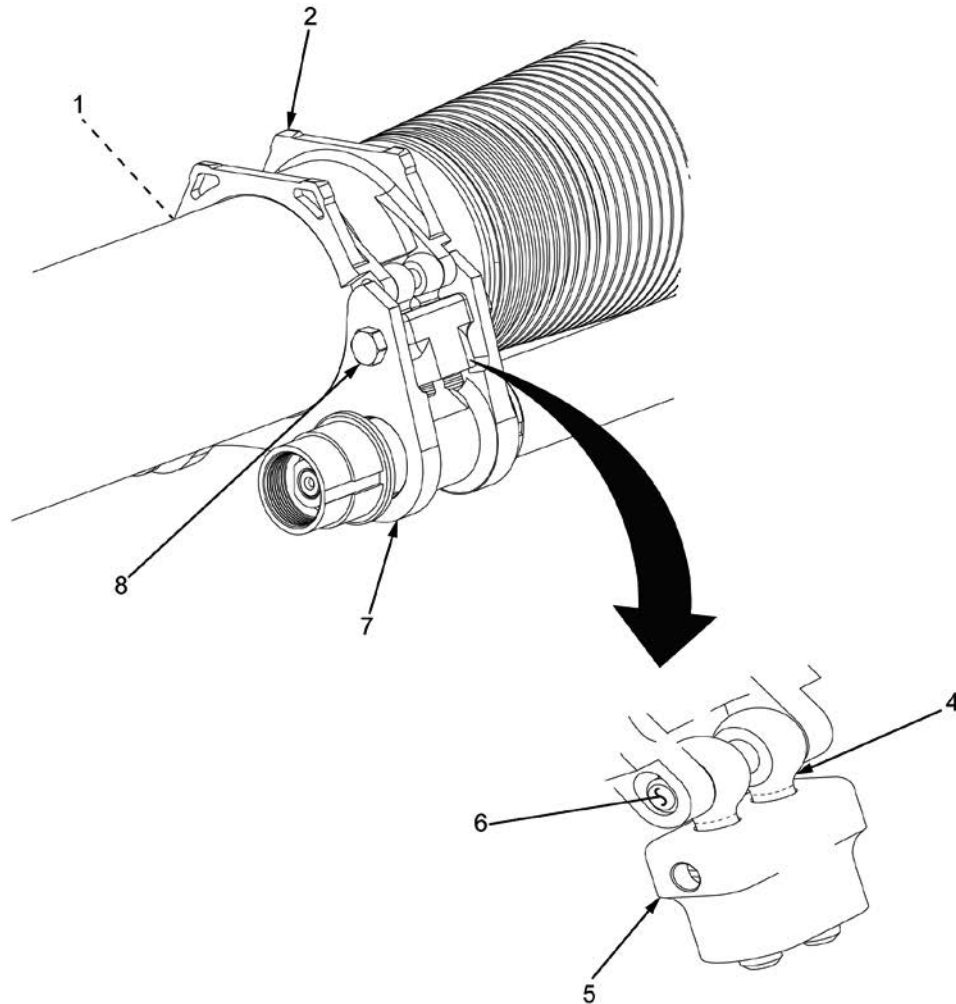

Figure 11. Marking of Eyebolt Shaft.
16. Push two eyebolts (Figure 11, Item 3) into belleville housing (Figure 11, Item 4), eliminating all possible slack between head of eyebolts and the top of belleville housing.
17. Mark both shafts of eyebolts (Figure 11, Item 3) parallel to top of belleville housing (Figure 11, Item 4).
18. Open clamping catch (Figure 11, Item 1). Remove two machine bolts (Figure 11, Item 7) from lower clamp (Figure 11, Item 6).
19. Remove headless straight pin (Figure 11, Item 5) from upper clamp (Figure 11, Item 2).